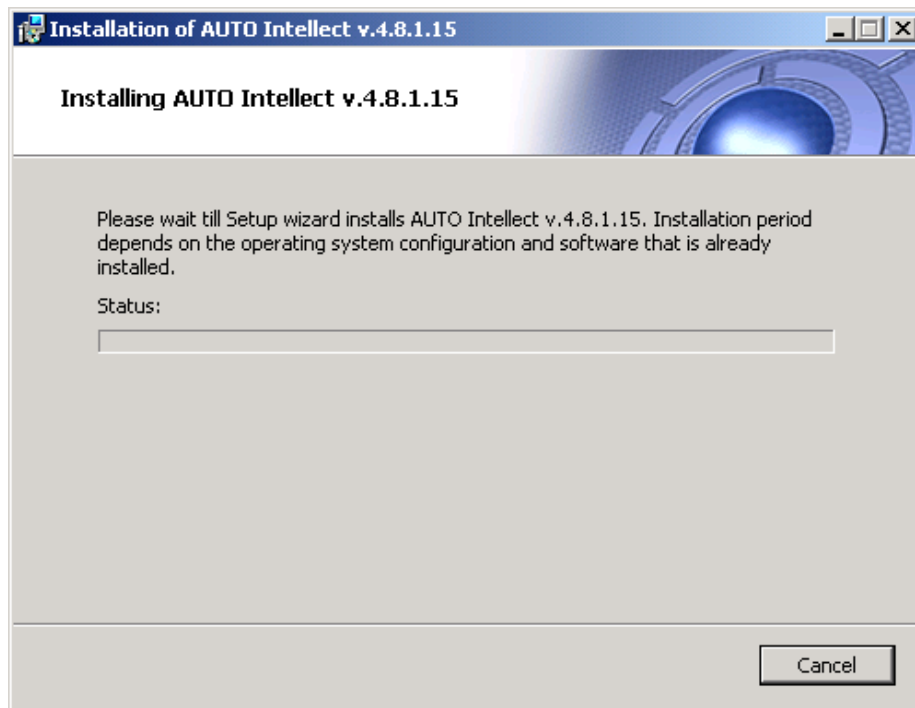

Fig. 6.3-5 Installing dialog box
Step 6. The files of Auto Intellect PC are copied to hard drive of your computer (see Fig. 6.3-5)